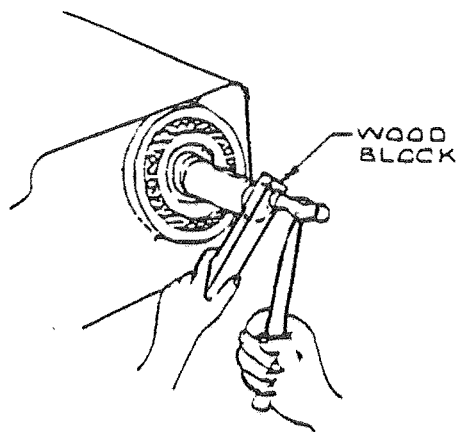

FIGURE 6-26 CRANKSHAFT REMOVAL
- H. REMOVE CRANKSHAFT FRAME CAPS, KEEPING SHIMS WITH CAPS FOR REASSEMBLY THE CRANKSHAFT MAY NOW BE REMOVED FROM EITHER SIDE BY TAPPING GENTLY WITH A WOODEN BLOCK. TWO 1" (25.4 MM) RODS, EACH THREADED ON ONE END (8 THREADS/INCH), MAY BE SCREWED INTO BOTH ENDS OF THE CRANKSHAFT TO FACILITATE REMOVAL AS SHOWN IN FIGURES 6-26 AND 6-27.